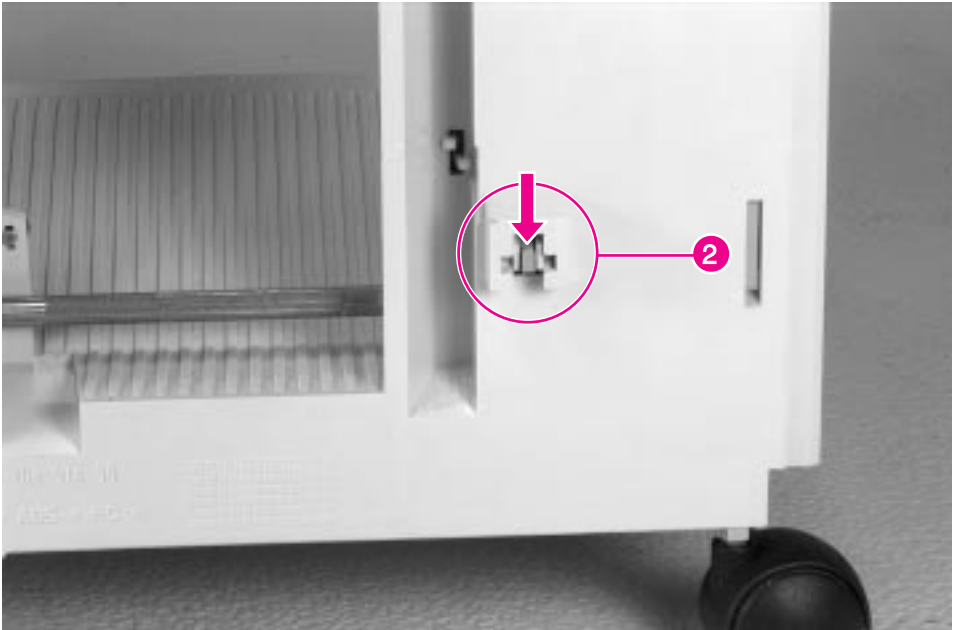

Figure 6-67 Mailbox with Stapler, Pulley Housing Release
- 3 From the back of the unit, release 2 lower pulley assemblies by pushing down on the assembly, and then pushing it forward (figure 6-67, callout 2). Note that the protrusion on the side of the pulley housing is positioned toward the outside of the frame.